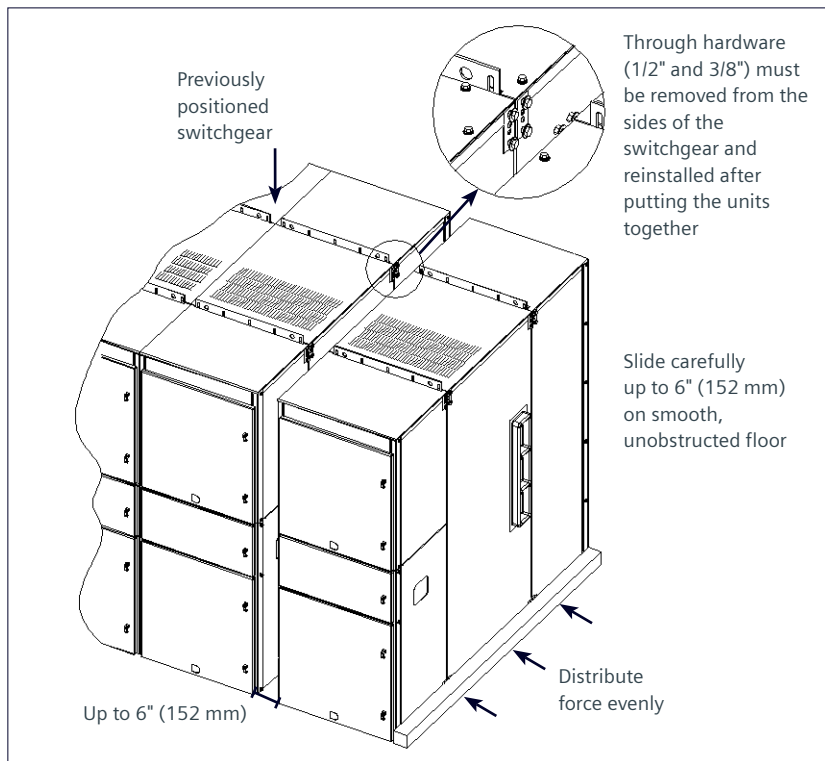

Figure 4: Moving switchgear in obstructed areas without crane- final positioning
Figure 4: Moving switchgear in obstructed areas without crane-final positioning shows a method of moving the switchgear into the final position after it has been moved near to the final position using another method.
7. Where top lift capability is not available, protect the switchgear bottom with support timbers and move with jacks and rollers just to the side of its final position. Remove rollers, shipping pallets and other packaging materials and remove jacking facilities. Clear any obstructions. The equipment may be slid sideways up to 6" (152 mm) to join the shipping split. Any sliding force must be carefully applied across the bottom 4" (102 mm) of the switchgear side with proper cribbing to fully distribute the force across the full depth of side (refer to Figure 4: Moving switchgear in obstructed areas without crane-final positioning).